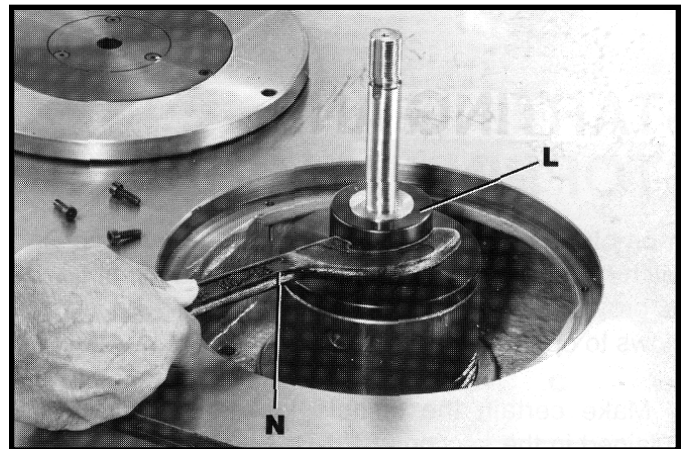

Fig. 33
7. Using the special spanner wrench (N) Fig. 33, supplied, tighten spindle nut (L) as shown.